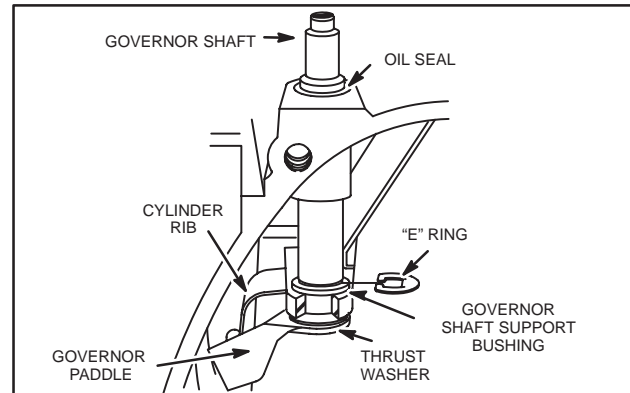

Fig. 19 – Governor Shaft Assembly (Twin II)
2. Assemble thrust washer to governor shaft and insert governor shaft through lower and upper bushings. Fig. 19.
6. Push governor paddle against cylinder rib, Fig. 19.